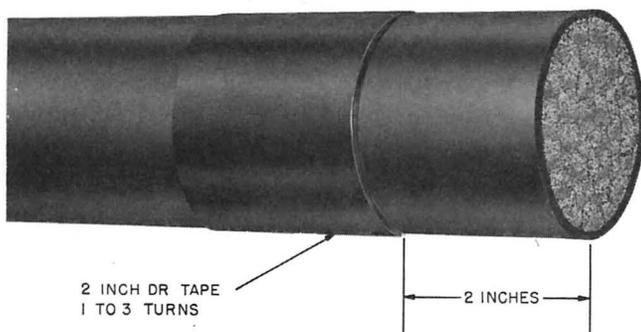

Fig. 3—Preparation of Cable for Cap Installation
- (2) To avoid wrinkling the cap under the clamp and to ensure a good seal, wrap 1 to 3 layers of 2-inch DR Tape on the sheath as shown in Fig. 3.